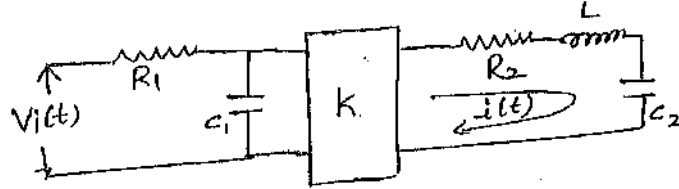

Fig.Q.1(b)
- b. For the mechanical system shown in Fig.Q.1(b), write i) The mechanical network ii) the equations of motion and iii) the force-current analogous electrical network. (08 Marks)
Find the transfer function $\frac{I(s)}{U_i(s)}$ for the circuit shown in Fig.Q.1(b) and K is the gain of an ideal amplifier.